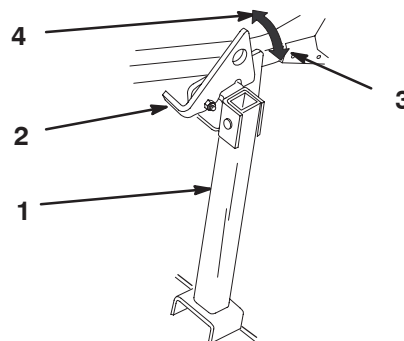

Figure 31
2. Raise the latch to the unlocked position (Fig. 31).